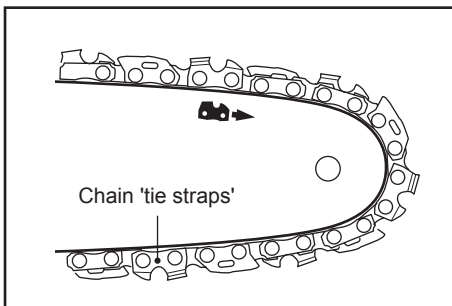

Fig. 2d
4. Check the chain tension using one hand to lift the saw chain (3) against the weight of the product. The correct chain tension is achieved when the saw chain can be lifted by approximately 2 - 4 mm from the guide bar (4) in the centre (Figs.2d, 2e). After the adjustment, re-tighten the locking wheel (11).